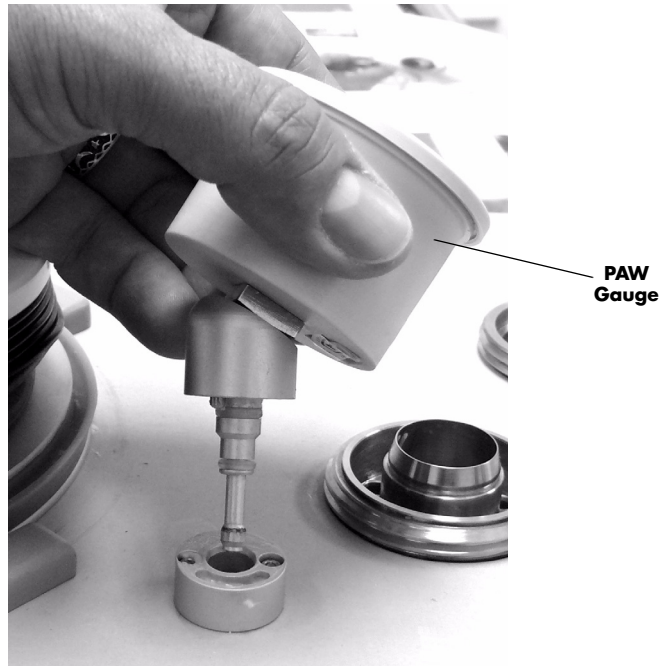

FIGURE 3-15 PAW Gauge Removal
1. The PAW gauge is a component that is pressed into position for use. It is not necessary to remove this component to clean it. However, if removal is desired, simply grasp it and lift it away from the absorber block as shown in FIGURE 3-15.